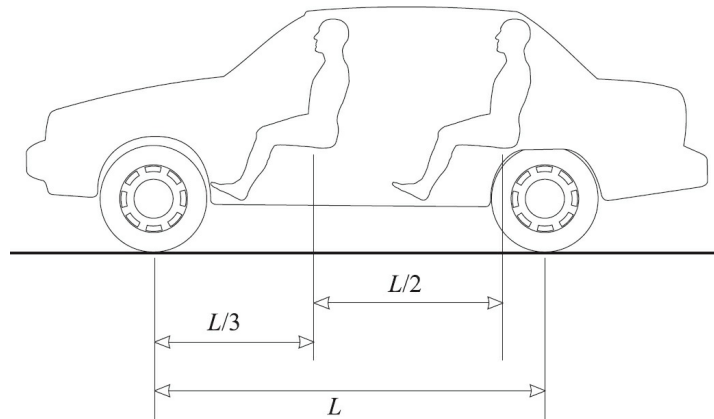

Fig. 5-13
5.20 [II] As depicted in Fig. 5-13, two people sit in a car that weighs 8000 N. The person in front weighs 700 N, while the one in the back weighs 900 N. Call L the distance between the front and back wheels. The car's center of gravity is a distance $0.400L$ behind the front wheels. How much force does each front wheel and each back wheel support if the people are seated along the centerline of the car?